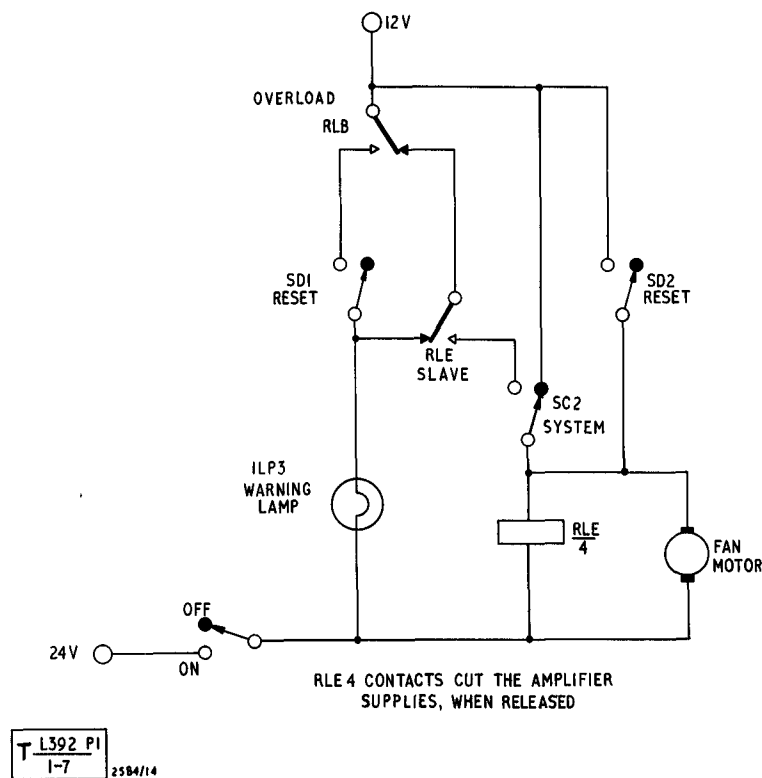

Fig 7 - Simplified overload and reset circuit
43. When RLB operates, it releases the self-holding slave relay, RLE, (see Fig 7) which in turn switches off the amplifier and, in doing so, switches on ILP3, OVERLOAD CUT OUT. A spring loaded reset switch (D) is provided on the front panel (RESET).